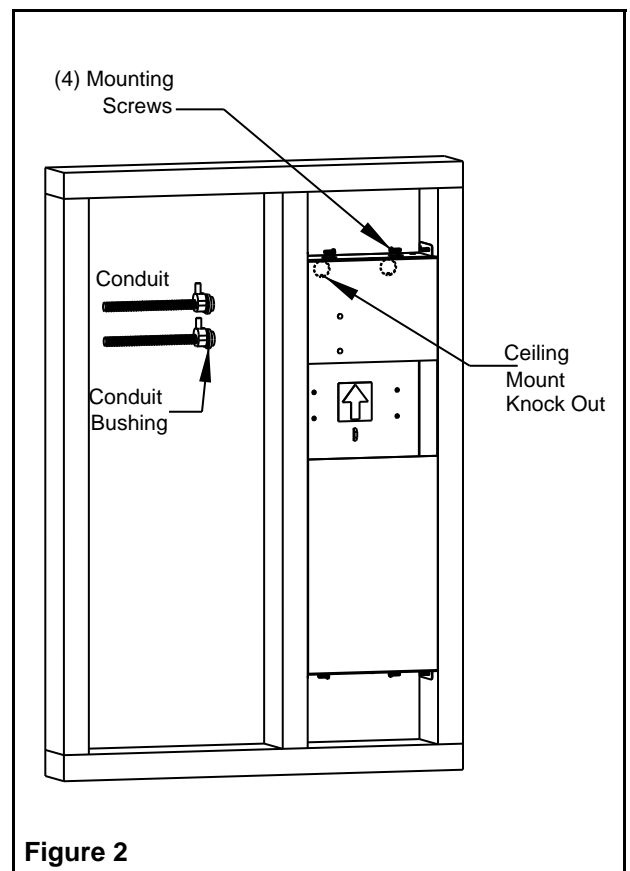

Figure 2
Drywall Ceiling Back-Box Installation (Figure 2)
1. Knock out the hole(s) on the back-box for incoming cable(s). (AC line and/or DC emergency line, Figure 2).
2. Position the back-box at the desired location to be flush with the front edge of the joist, observing mounting orientation (Figure 2).
4. Frame the back-box as shown in Figure 2. Check for proper installation.